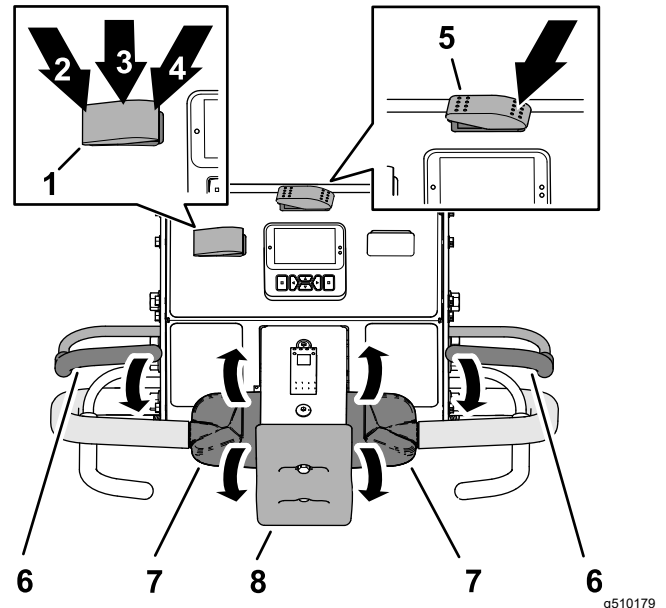

Figure 74
1. Press the transport/aerate switch to the TRANSPORT position (Figure 74).